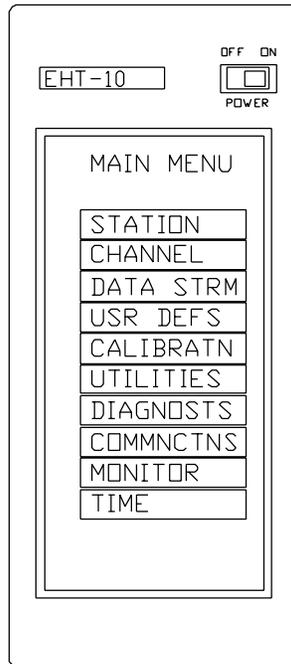

Figure 1 FST Main Menu on the EHT-10
- * Flip the EHT-10 unit's power switch to turn the unit on. It should immediately display the FST Main menu, as shown in figure 1.
All FST operations originate from the Main menu, shown in figure 1. The Main menu provides top-level access to all the FST commands.